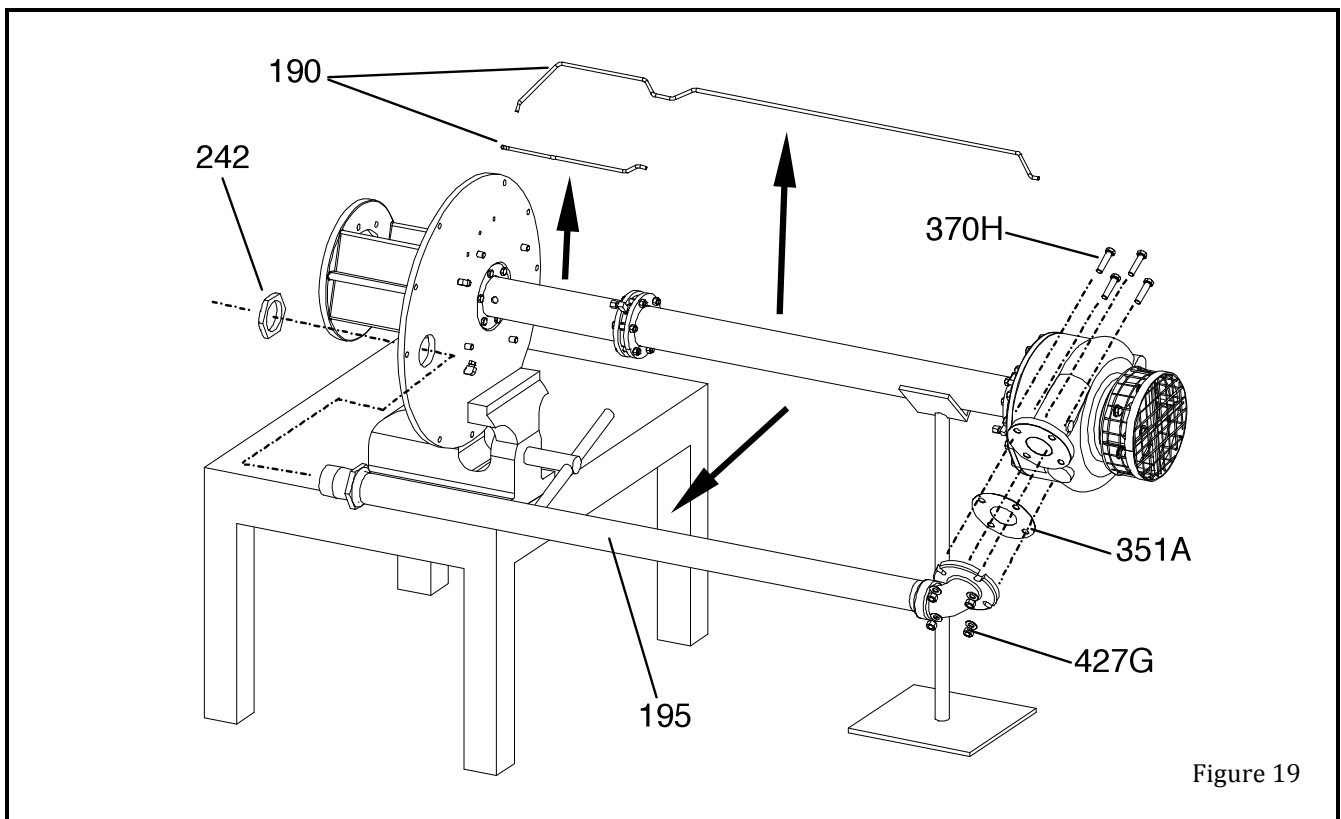

Figure 19
14. Disassemble the discharge pipe (195) by removing the upper nut (242) and elbow fasteners (370H). Pull the discharge pipe from the support plate and pump flange (Figure 19).
15. Remove all steady bearing flush tubing (190) that is attached to the pump and steady bearings.
16. Remove pump half-coupling hub (233) and key.